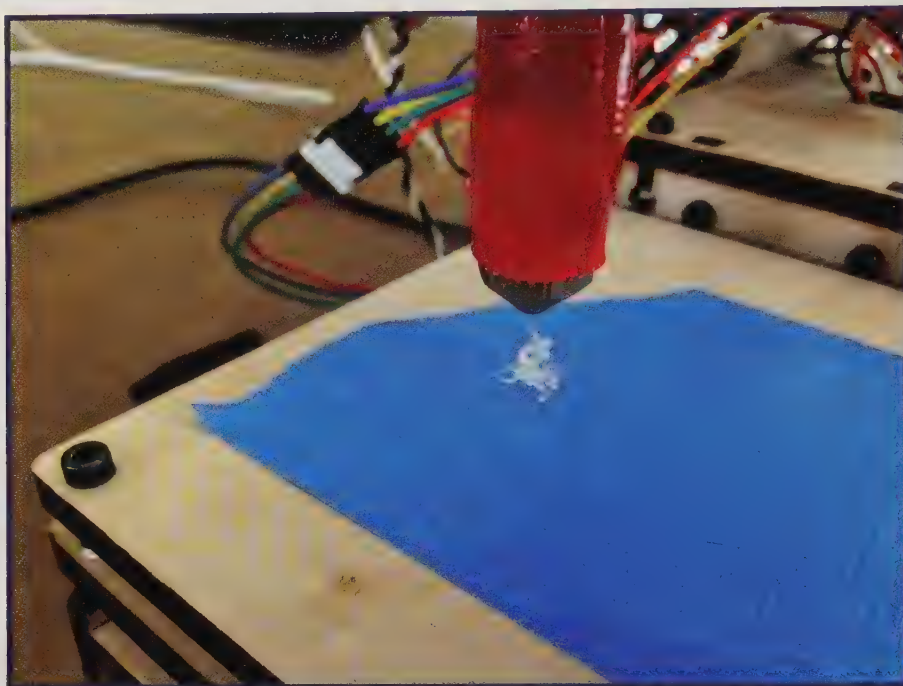

FIGURE 5.17 Testing filament extrusion.
- It's possible your hot end might need a slightly higher temperature to get things flowing. Use the Print Panel to raise the nozzle 3cm (30mm) or so away from the print bed. Release the mechanism on the extruder that applies pressure and manually push the filament down into the hot end. You should see a wormy bead of plastic come out of the nozzle, as shown in Figure 5.17. If the bead appears, you've got the temperature set properly and need to adjust the tightness of the feeding mechanism on the extruder.